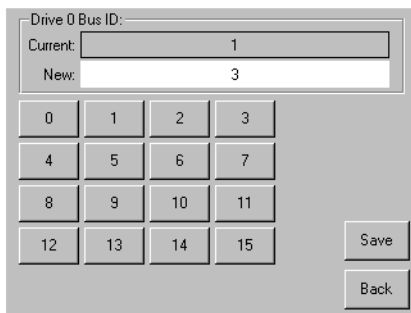

Figure 3-2. Drive 0 bus ID screen
- a. Select the box next to the text "Drive 0 Bus ID:." The Drive 0 Bus ID screen appears on the display (see Figure 3-2). This screen displays the current Drive 0 Bus ID along with the new value that you request.